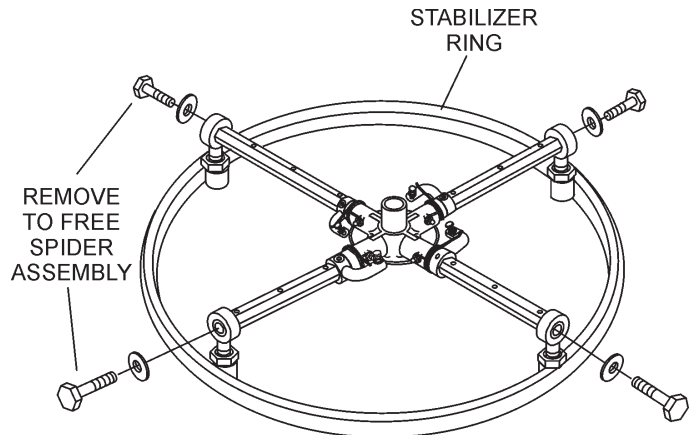

Figure 42. Stabilizer Ring
- c. If the trowel is equipped with an outer stabilizer ring (Figure 42), remove the four bolts at the end of each spider arm.